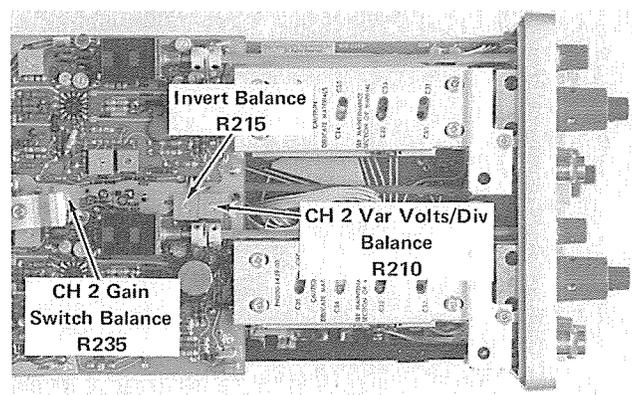

Fig. 5-10. Location of CH 2 Var Volts/Div Balance, Gain Switch Balance, and Invert Balance adjustments.
- d. ADJUST—CH 2 Variable Balance adjustment, R210 (see Fig. 5-10), for minimum trace shift when rotating the CH 2 VAR control through its range.
- d. ADJUST—CH 2 Gain Switch Balance adjustment, R235 (see Fig. 5-10), for minimum trace shift between 2 mV and 5 mV positions of the CH 2 VOLTS/DIV switch.
- e. ADJUST—Invert Balance adjustment, R215 (see Fig. 5-10), for minimum trace shift between positions of the INVERT switch.